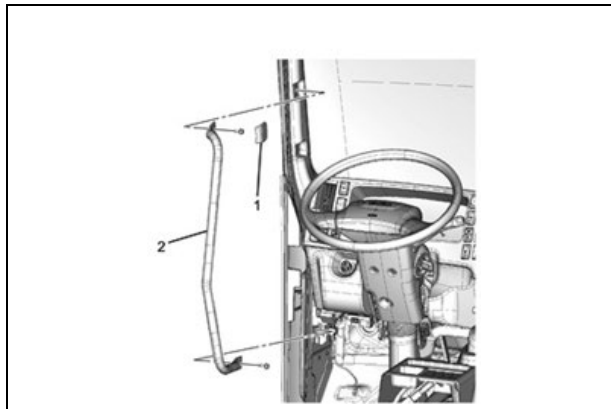

Figure 40
39. Install the assist handle to the front pillar (See Figure 40). Torque the mounting bolts. **Torque Specification: 19 N•m (14 lb•ft)**